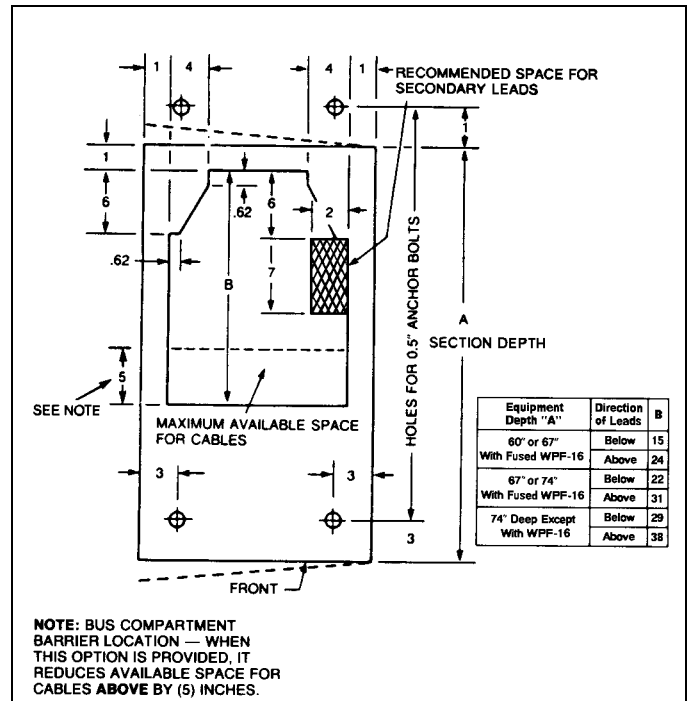

Fig. 4-17. Floor plan and cable entry space
For external control wiring, refer to Fig. 4-17 for switchgear cable area dimensions, and connect the control wires to the switchgear section as follows:
2. Route the control wires from the conduits through the wiring trough (cross-hatched area- 2" x 7"-shown on Fig. 4-17) at the side of the cable compartment. Connect the cables to the terminal blocks in accordance with the connection diagrams for the equipment. Refer to the equipment frontview / floorplan drawings for location of terminal blocks for external control wiring.
3. If the control conduits enter from above, remove the top plate from the switchgear and drill the top cover within the available space indicated. See Fig. 4-17. Control wires should be routed to the wiring trough and connected to the terminal blocks as described previously.